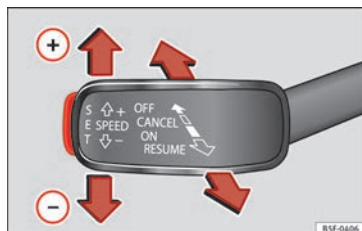

Fig. 33 See Fig. 3 for positioning
- Switching on the CCS: move the third lever to **ON** » Fig. 33. The system switches on but it does not control the speed as no speed has been programmed.
- Activating the CCS: press the **SET** » Fig. 33 button. It memorises and maintains the current speed.
- Temporarily switching off the CCS: move the lever to **CANCEL** » Fig. 33 and release it or press the brake pedal. The cruise control system is switched off temporarily.
- Reactivating the CCS: move the lever to **RESUME** » Fig. 33 and release it. The memorised speed is saved and controlled again.
- Switching off the CCS: move the third lever to position » Fig. 33 to **OFF**. The system is disconnected and the memorised speed is deleted.